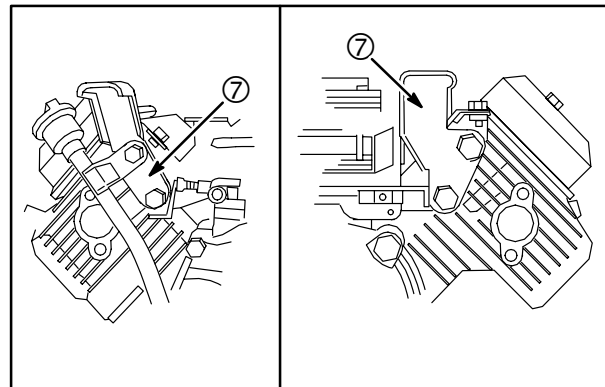

Fig. 3
8. If necessary remove 4 screws and 2 PTO side fuel tank base supports (7), **Fig. 3**.
2. Install 2 PTO side fuel tank base supports (7), **Fig. 3**. Torque screws to **140 in. lbs. (16 Nm)**.